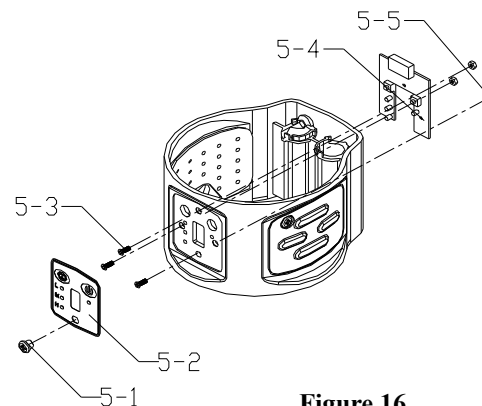

Figure 16
1. As shown in figure 16, the key pad is removed by loosening plastic screw (5-1#).